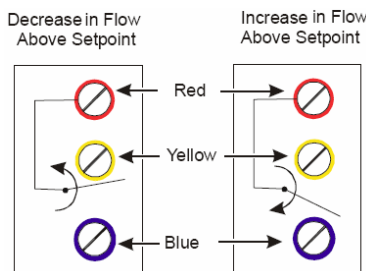

Fig.1 Switch Action
The SPDT switch on the FS80-C has color-coded terminals. Red is common, and closed to Blue upon flow increase and to Yellow upon flow decrease. See Figure 1 and Table 1 for switch action and flow rates.
2. For higher flow rates, turn the adjusting screw clockwise. To lower the flow rates after it has been raised from the factory setting, turn the adjusting screw counterclockwise. See Figure 1.